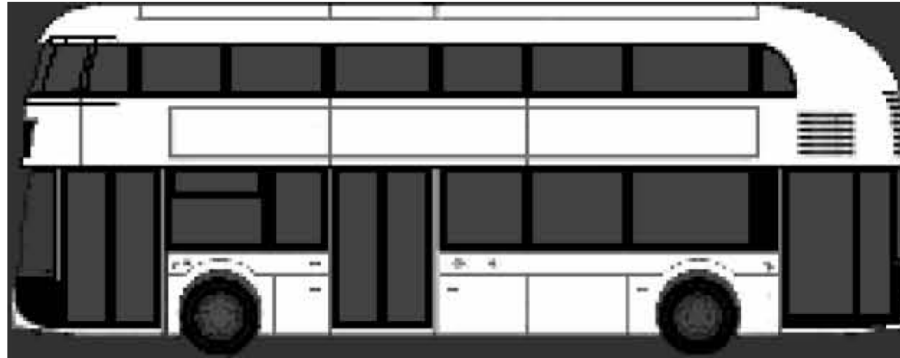

Fig. 1
- 3.1 The DMUX will have a visual representation of the vehicle on the display (Fig. 1), Visual warnings will appear on or around the image during various vehicle operations, as detailed in Table 4.